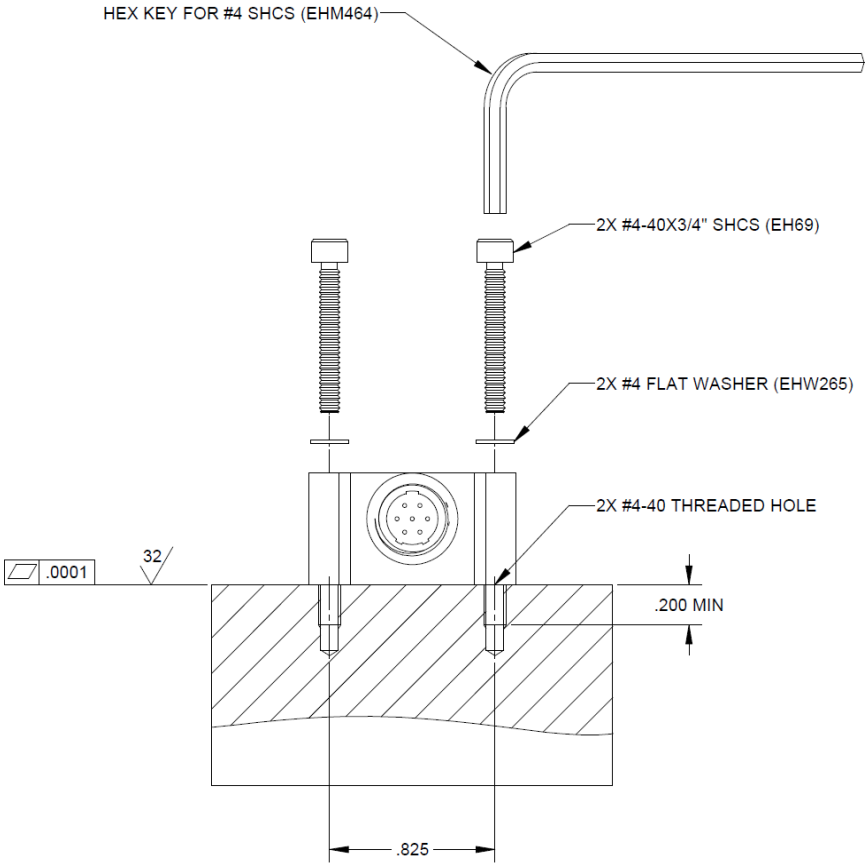

Figure 2. Installation of the model 7298 hermetic VC triaxial accelerometer.
1. Refer to Figure 2 for mounting surface preparation. The mounting surface should be clean and free of burrs. Two #4-40 threaded holes, 0.2 inch minimum depth should be spaced 0.825 inches (20.96 mm) apart. A 32 microinch rms surface finish with flatness of 0.0001 inches is recommended for the area that will contact the accelerometer. When planning the location of the threaded holes consider the mating cable assembly so that sufficient strain relief is provided without requiring too tight a bend radius. Also note that the location of the two holes, along with the direction on the mating cable assembly, will dictate the orientation of the measurement coordinate system.